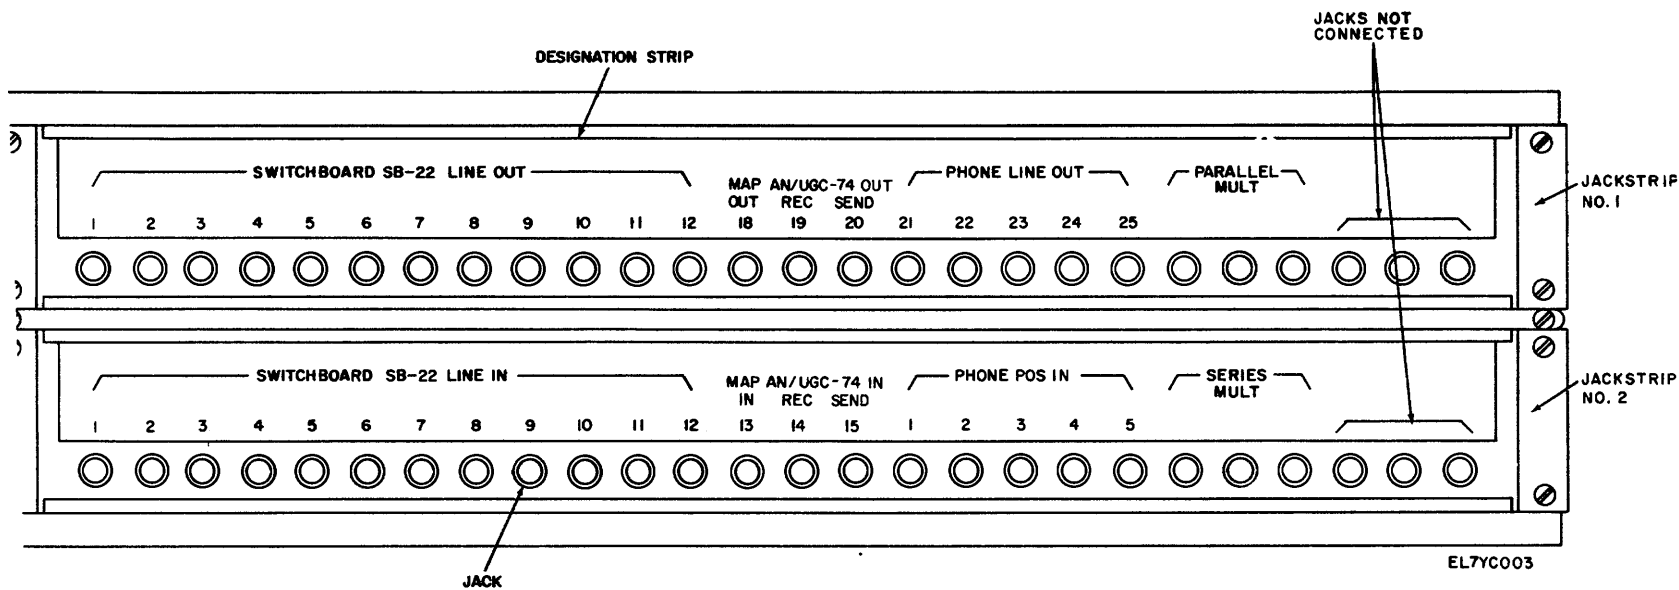

Figure 22.1. Terminal, Communications AN/MSC-25A, Patch Panel.
Page 22. Figure 22.1 is added after 22.
f.1. . Patch panel (fig. 22.1) AN/MSC-25A).